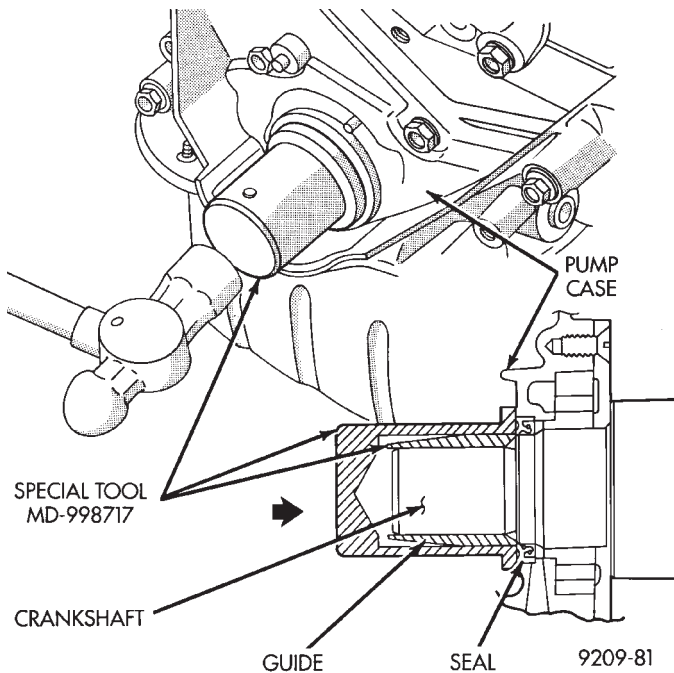

Fig. 15 Crankshaft Front Oil Seal
- (2) Using front crankshaft oil seal installer Special Tool MB998306 install oil seal in oil pump (Fig. 15).